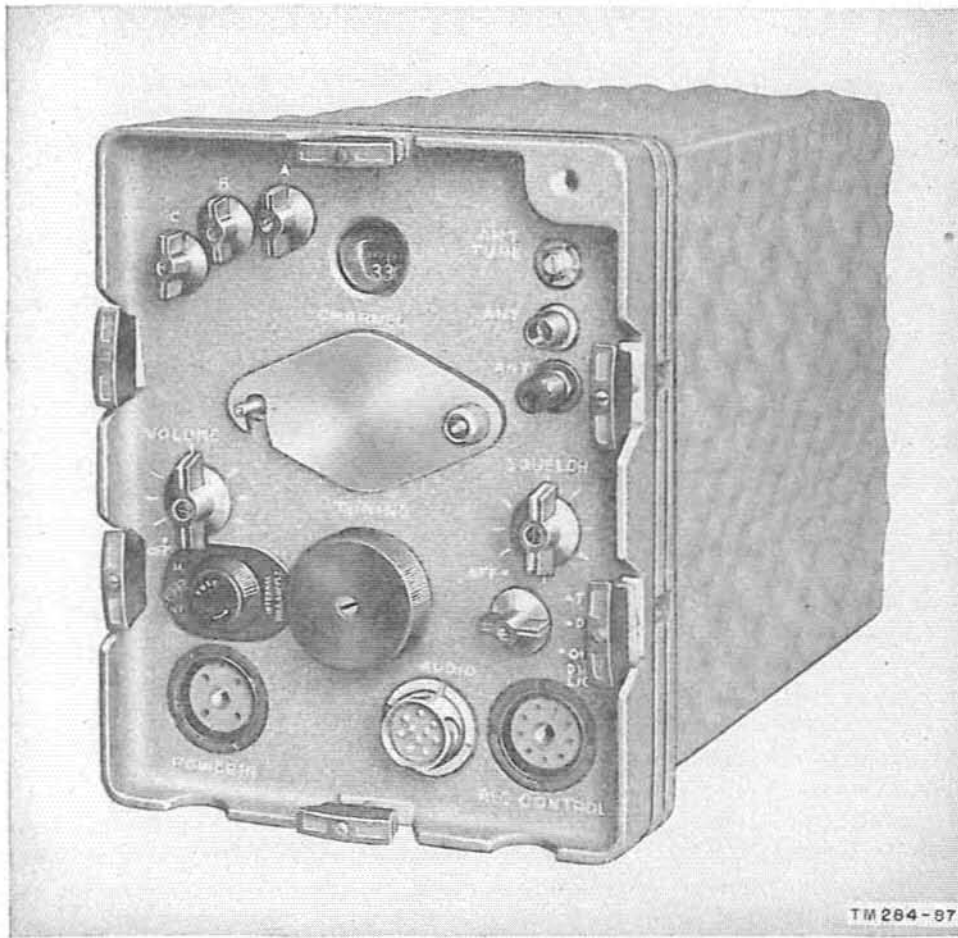

Figure 8. Radio Receiver R-108/GRC.
a. Radio Receivers R-108/GRC, R-109/GRC, and R-110/GRC are used as auxiliary receivers in Radio Sets AN/GRC-3, -5, and -7, respectively. The receivers are very similar in structure, function, and detailed circuit and mechanical arrangement; they differ from each other only in their operating frequency ranges and in those components which determine the frequency range. Hence Radio Receiver R-108/GRC (fig. 8) is similar externally to the other receivers except for the calibrations of the tuning dial. Receiver characteristics pertinent to system operation are
c. Mechanically the receivers are panel-chassis assemblies inclosed in a metal case (fig. 8). The bottom of the case is fitted with channel rails which are used to secure the unit to the vehicular mounting (par. 38). When the case is removed, the replaceable parts on the receiver chassis are made accessible (fig. 71).